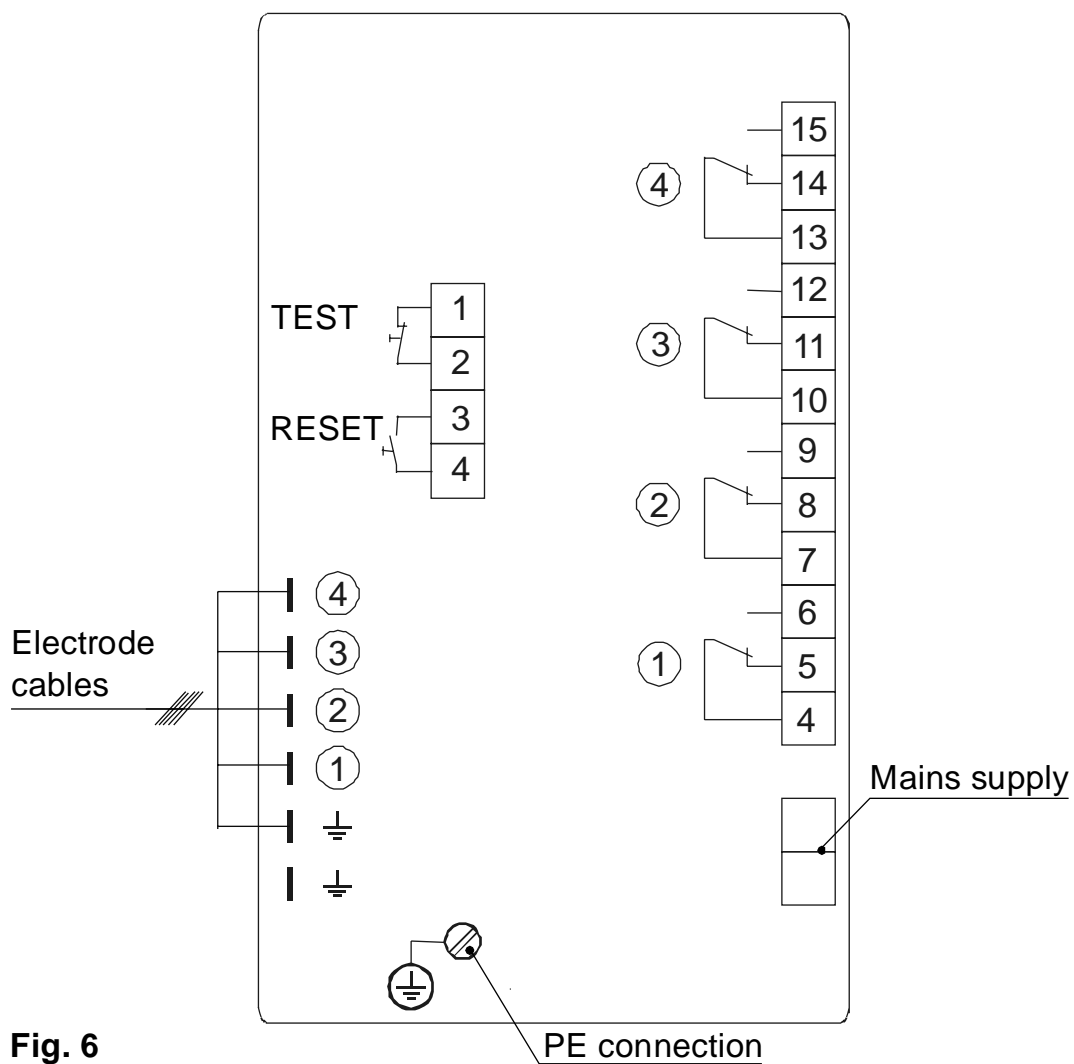

Fig. 6
4. Pull all electrode wires through fixing nut **M**. Use an open-end spanner A. F. 18 (19) mm to fasten the hexagon nut to the fixing screw, applying a torque of 25 Nm.
5. Connect the electrode wires according to the wiring diagram (see Fig. 6) to the terminal lugs for electrode wires, functional earth **N**.
1. Make sure that the level switch is correctly wired in accordance with the wiring diagram (see Fig. 6).